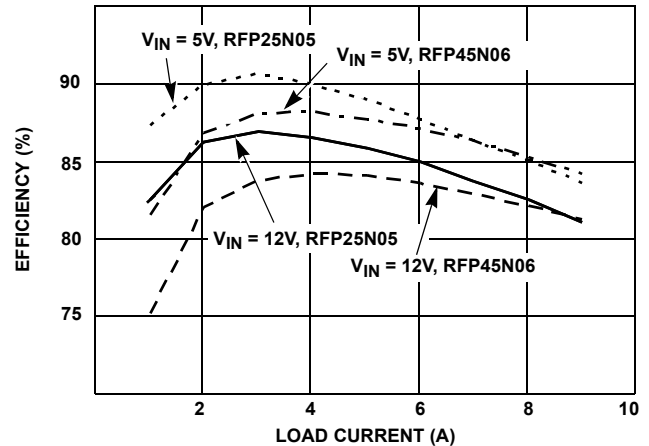

FIGURE 8. HIP6006EVAL1 EFFICIENCY WITH EITHER RFP25N05 MOSFETs OR RFP45N06 MOSFETs
As a supplement to the data sheets' application information on MOSFET Selection Considerations, this section shows graphically that a larger, lower rDS(ON) MOSFET does not always improve converter efficiency. Figure 8 shows that smaller RFP25N05 MOSFETs are more efficient over most of the line and load range than larger RFP45N06 MOSFETs. The